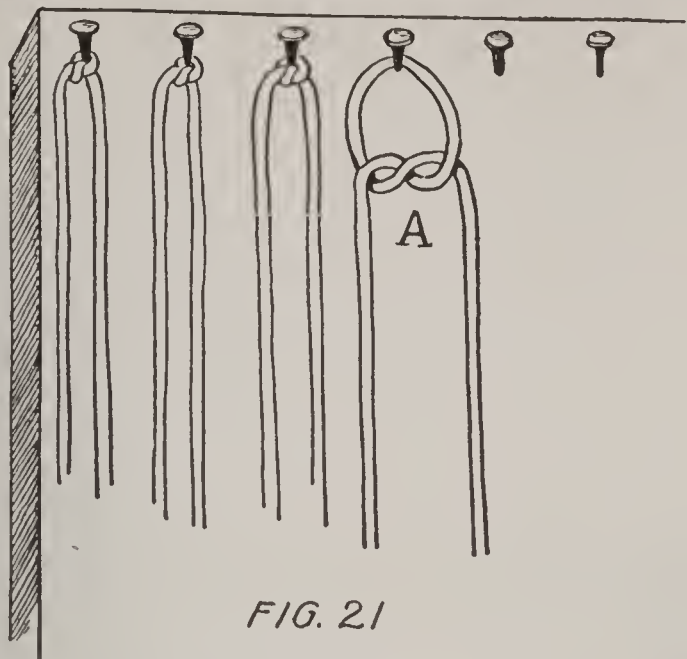

FIG. 21
Fig. 21 shows a portion of the board with tacks in place and twine tied on the first three tacks. On the fourth tack (A) the twine is tied loosely, ready to be drawn tight; twine has not yet been fastened on the remaining tacks.